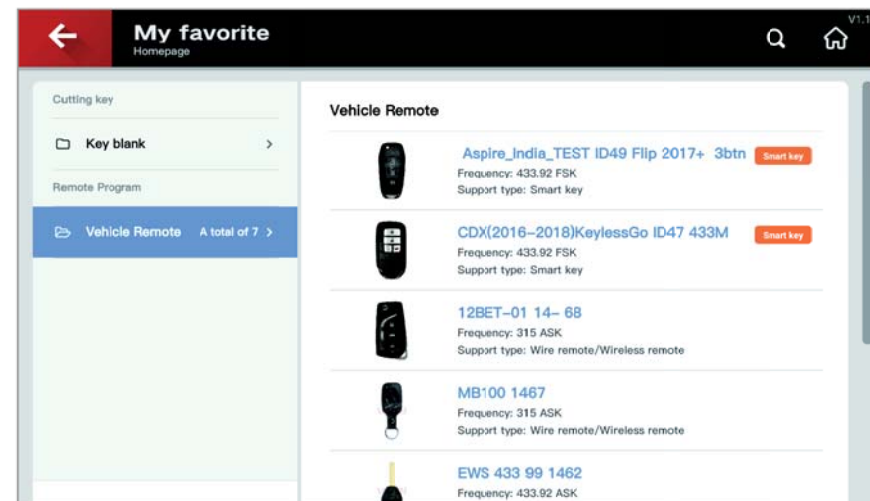

Fig.4.1.6
**My favorite:** Users can bookmark vehicle remotes and key blanks to quickly access their favorites with one click next time. See Fig. 4.1.6